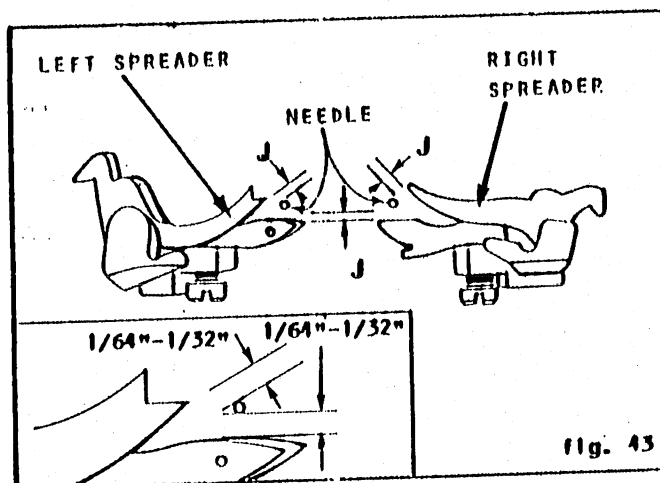

fig. 43
The position of the descending needle on each stroke as the loopers and spreaders are backing away is shown (fig. 43). It is important that the space (J) between the needle and spreaders be